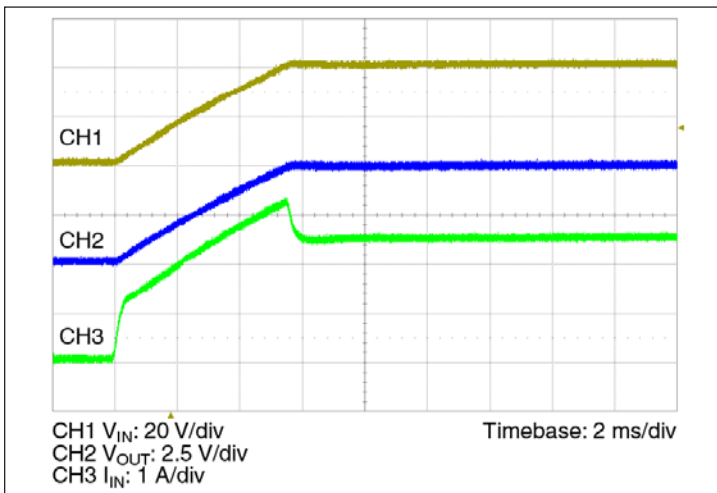

Figure 13 — Start up from application of V_{IN} ; V_C pre-applied $C_{OUT} = 0 \mu$ F
- **Normal Operation (VC applied prior to V_{IN}):** In this case the controller is active prior to ramping the input. When the input voltage is applied, the VTM output voltage will track the input (See Figure 13). The inrush current is determined by the input voltage rate of rise and output capacitance. If the VC voltage is removed prior to the input reaching 26 V, the VTM module may shut down.